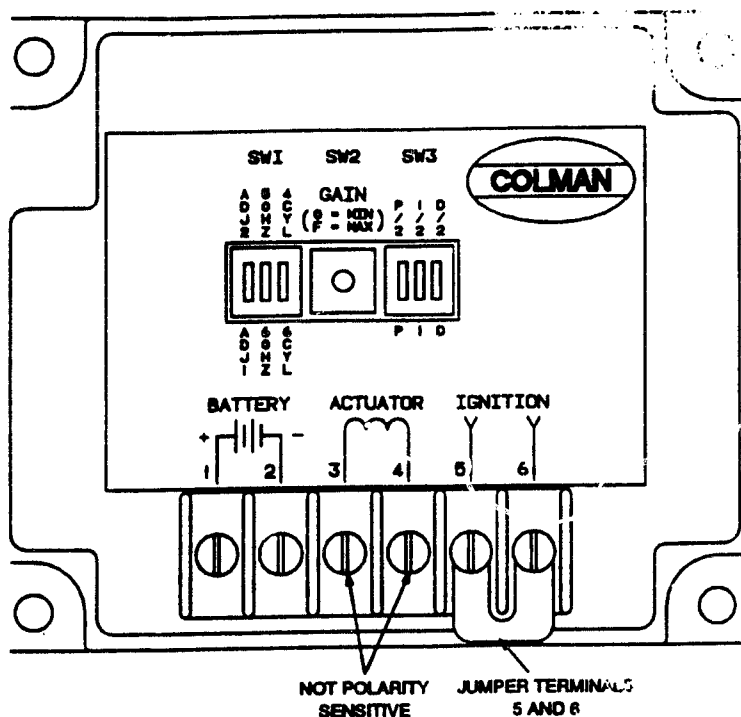

FIGURE 1 GOVERNOR CONTROLLER
1. Place switch SW3 I in the upward position (Figure 1). This should reduce the level of overshoot on start to half of the original setting. If this does not help, return the switch to its original position and proceed to the following step.